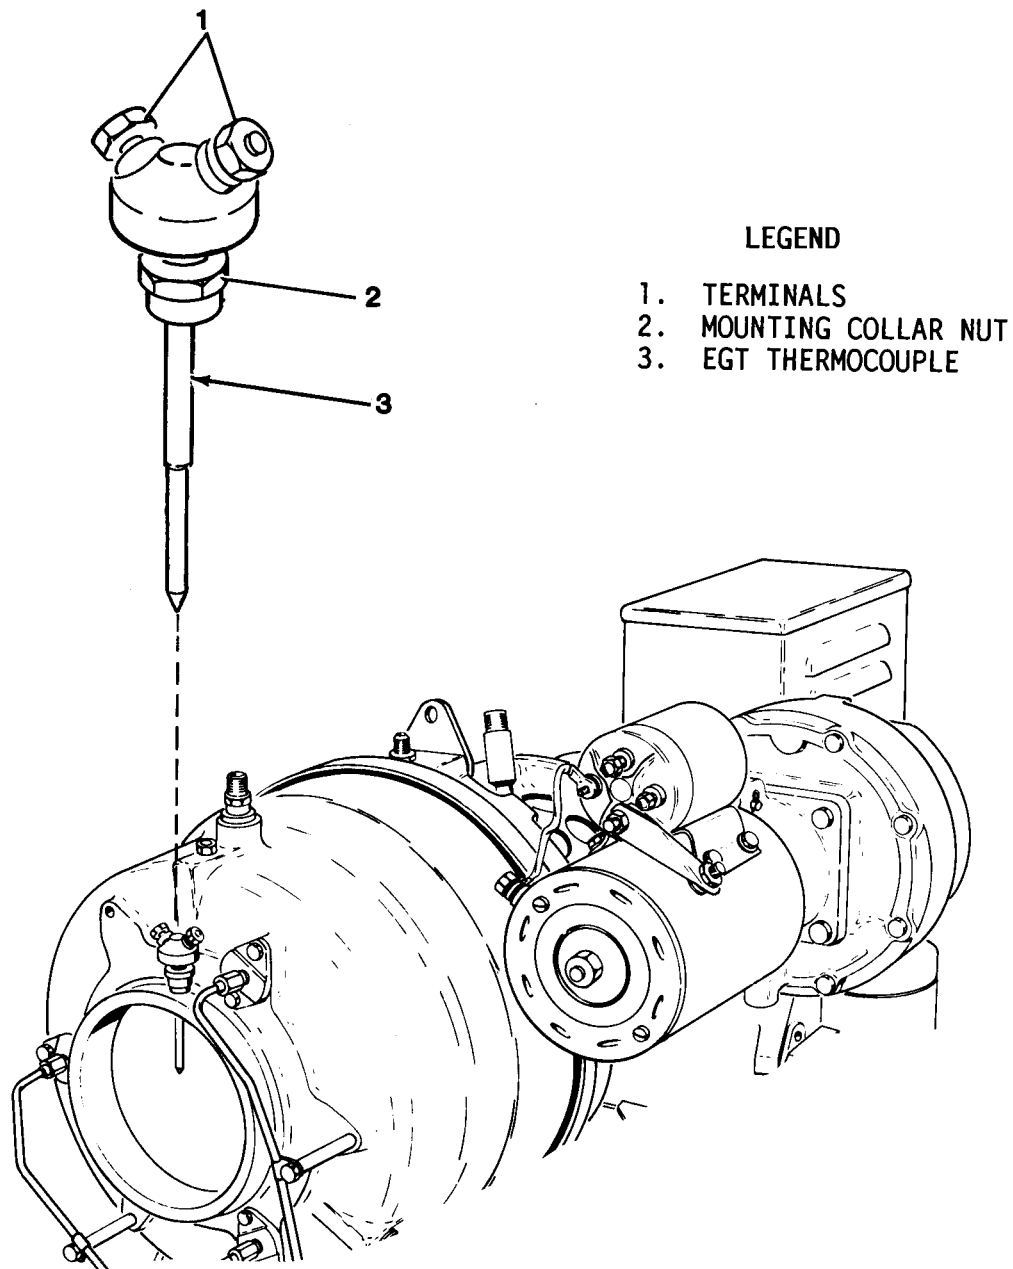

Figure 4-41. EGT Thermocouple Replacement
(1) Disconnect battery cable plug connector from battery.
(2) Loosen turnlock fasteners and remove engine housing access cover.
(3) Tag and disconnect electrical connections from EGT thermocouple terminals (1, figure 4-41). Larger terminal is negative (-), smaller is positive (+).
(4) Unscrew mounting collar nut (2) and remove EGT thermocouple (3).